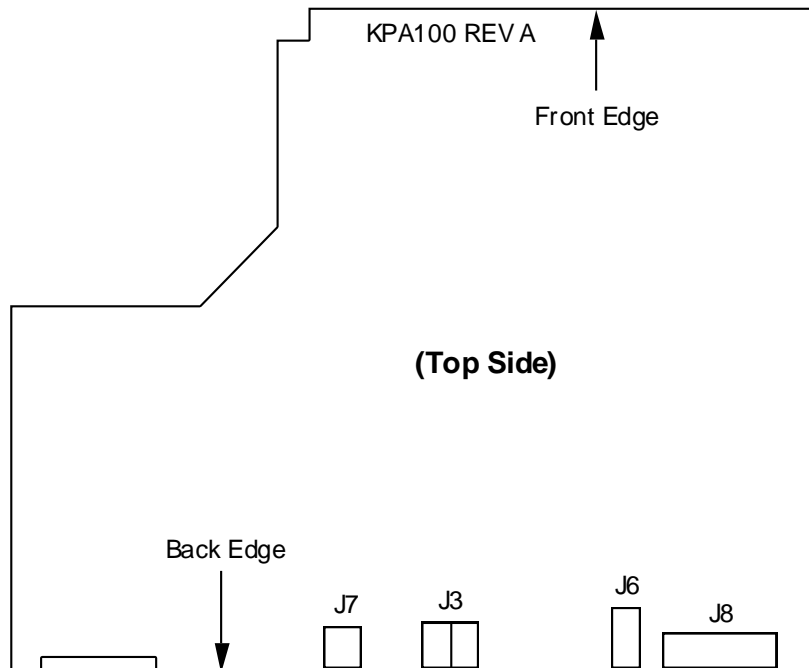

Figure 1
□ Place the KPA100 PC board as shown in Figure 1, and identify the top side, which has most of the components. (A complete parts placement drawing can be found at the end of this appendix.) The "Front Edge" and "Back Edge" designations are based on the board's orientation when installed in the K2.